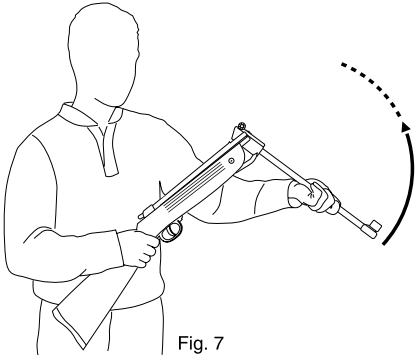

Fig. 7
- Bring the barrel to its fully closed position. (Fig. 7 )